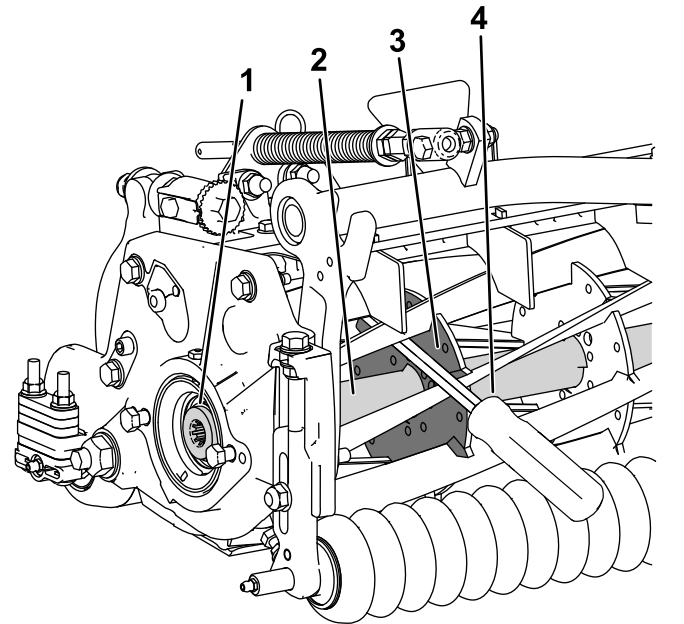

Figure 32
1. Insert a long-handled pry bar (recommended 3/8" x 12" with screwdriver handle) through the front of the cutting reel, closest to the side of the cutting unit that you will be torquing (Figure 32).
2. Place the pry bar against the weld side of the internal cutting reel reinforcement (Figure 32).